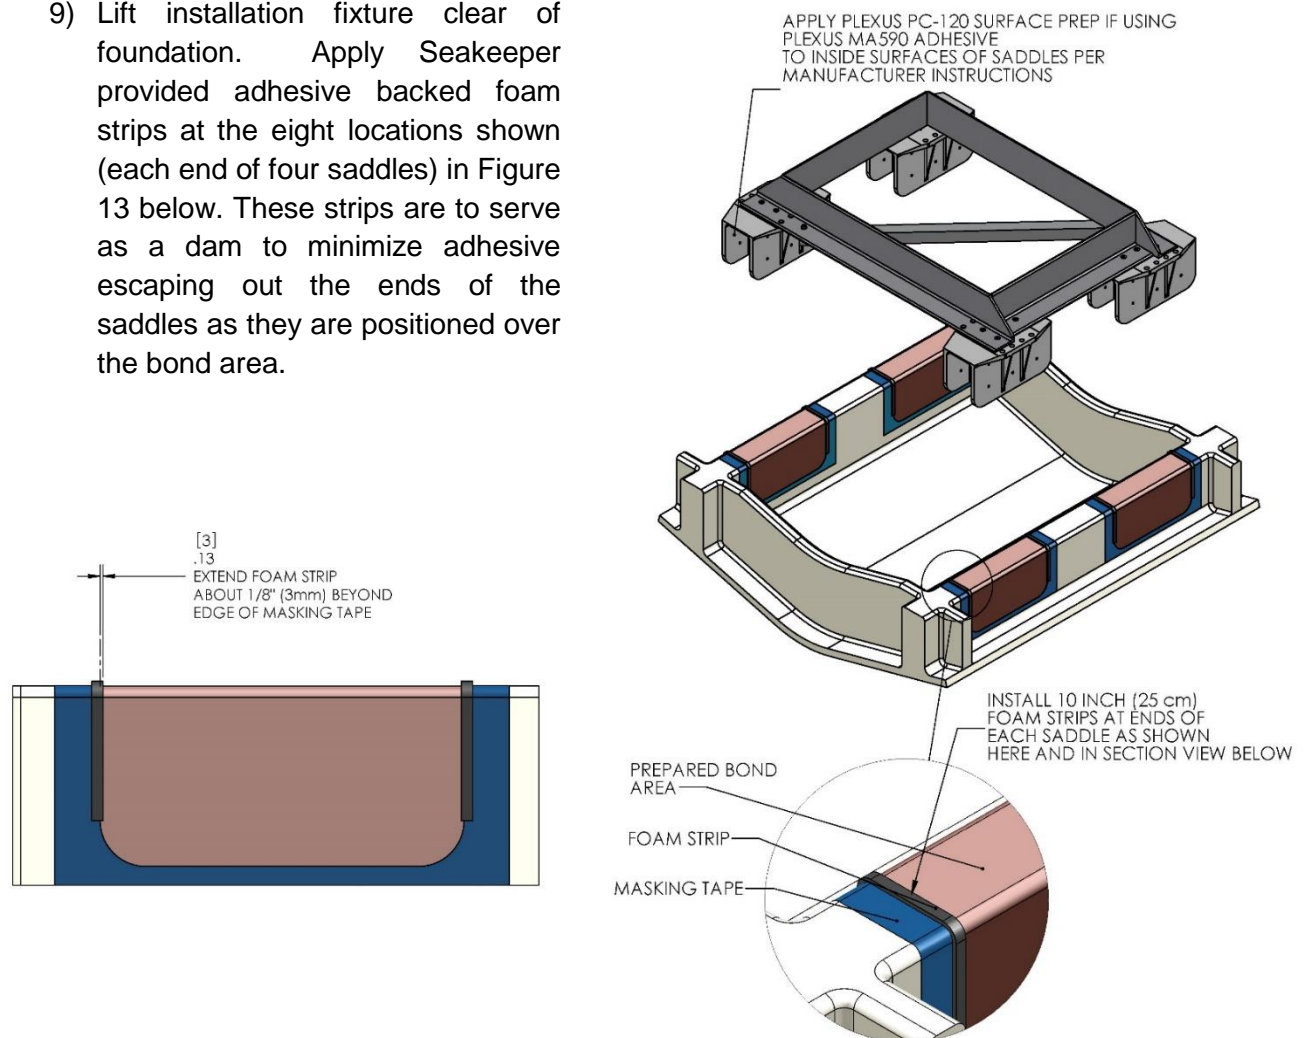

FIGURE 13 – FOAM STRIP INSTALLATION
- 9) Lift installation fixture clear of foundation. Apply Seakeeper provided adhesive backed foam strips at the eight locations shown (each end of four saddles) in Figure 13 below. These strips are to serve as a dam to minimize adhesive escaping out the ends of the saddles as they are positioned over the bond area.